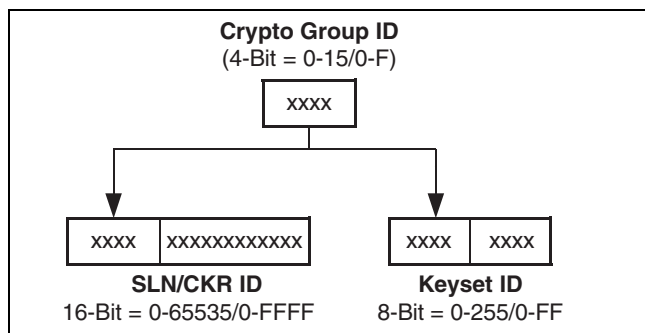

Figure 11-3 Encryption Parameter IDs
11.4.2). However, only two keysets are typically used as just described. Crypto groups are used to help manage keys such as when a radio uses keys with different active times or multiple algorithms. Currently, only one crypto group is supported, and it is always ID 0. As shown in Figure 11-3, the crypto group ID is the upper four bits of both the SLN and Keypad IDs.